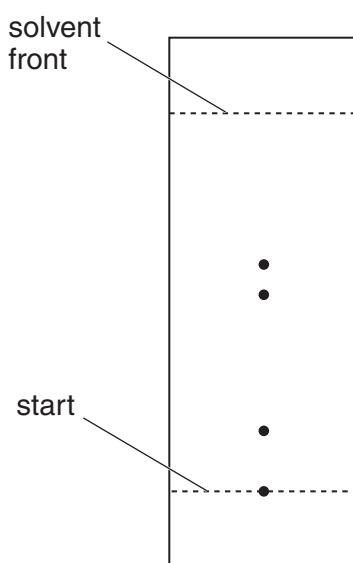

Fig. 3.2
(d) Food scientists analysed a sweet to see which colouring agents had been used. They used thin layer chromatography and obtained a chromatogram, Fig. 3.2, for the food colours present.
- (i) Use the chromatogram, Fig. 3.2, to decide which one of these food colours is definitely present.